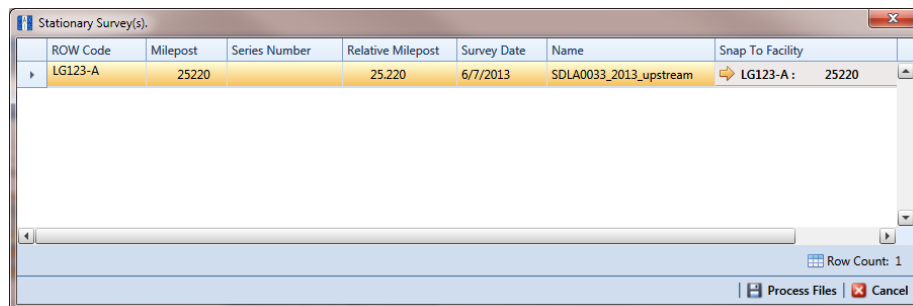
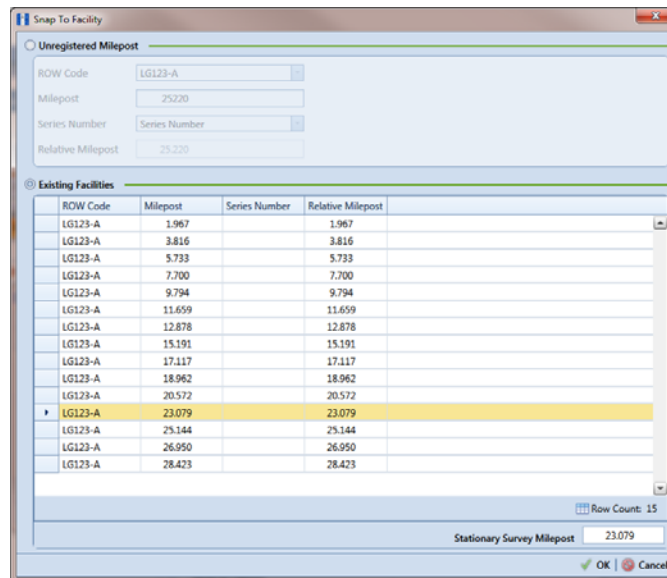

Figure 10-17. Stationary Survey(s)
Figure 10-18. Snap To Facility
- When the *Stationary Survey(s)* window opens (Figure 10-17, page 469), select the SDL survey file and then click the **Snap To Facility** button to open the *Snap To Facility* window (Figure 10-18, page 470).
- 12** When the milepost location of the SDL survey *does not* match a pipeline segment already established in PCS Axis, it is identified as an *UnRegistered Milepost* (Figure 10-18).
- a** Click **Existing Facilities** to enable the grid for use (Figure 10-18).